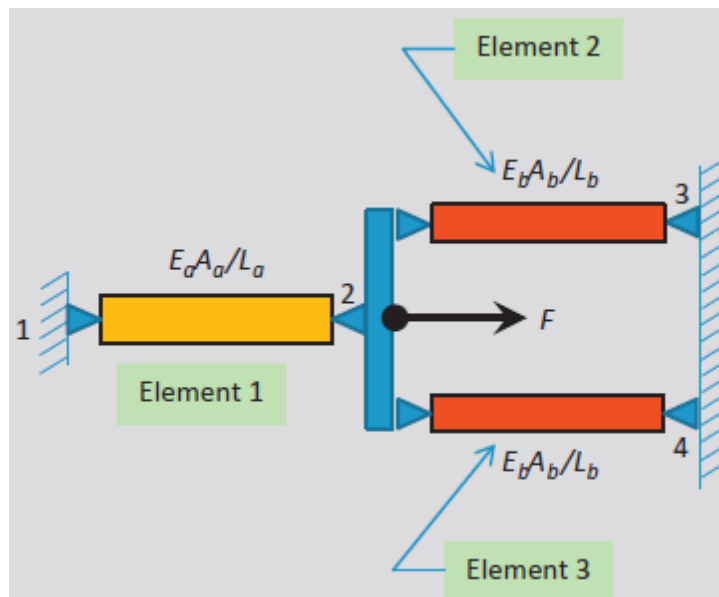

Figure P1.8
8. Determine the field values (nodal displacements and internal forces) for the following structural system shown in **Figure P1.8**. Take $F = 50,000 \text{ N}$, $A_a = 1.5 \times 10^{-4} \text{ m}^2$, $A_b = 1.0 \times 10^{-4} \text{ m}^2$, $E_a = 203 \times 10^9 \text{ Pa}$, $E_b = 69 \times 10^9 \text{ Pa}$, $L_a = L_b = 1 \text{ m}$.